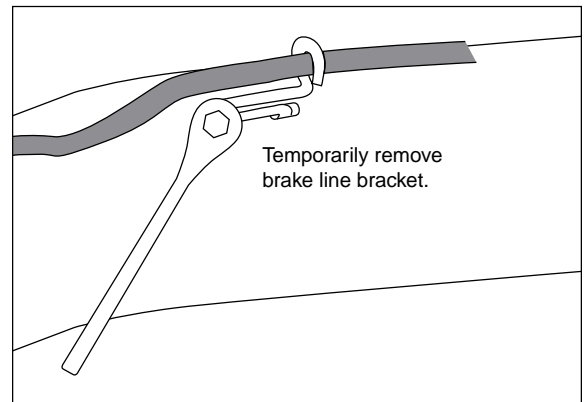

Figure 5
2. On the Driver Side only, unbolt the emergency brake cable. Remove the nut and cable bracket and pull the cable loose from the frame (Figure 5). Hold onto fasteners so that the cable bracket can be reattached later.